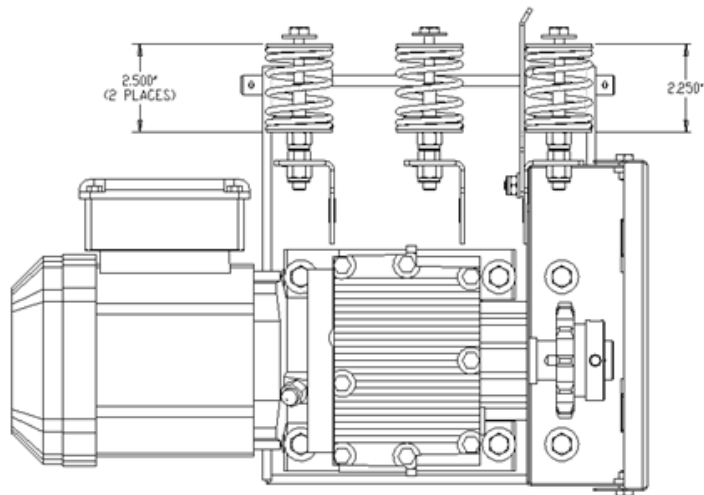

Fig. 43
4. Remove unload end panel and verify the three springs are compressed to the correct dimension as shown below in Fig 43.